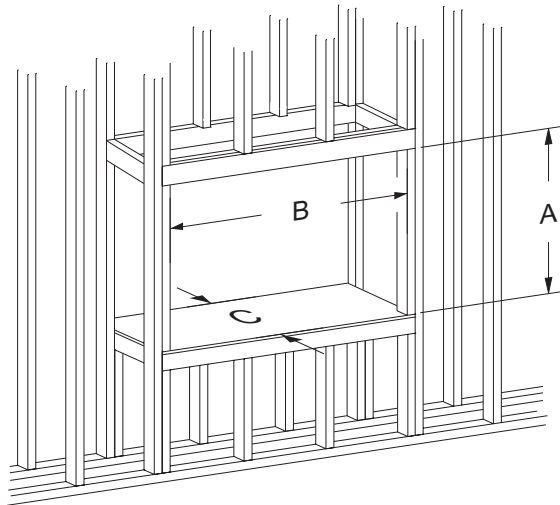

Figure 11 - Rough Opening for Elevated Installation
- Use **Figure 11** for installation. Provide support to the bottom of the fireplace.